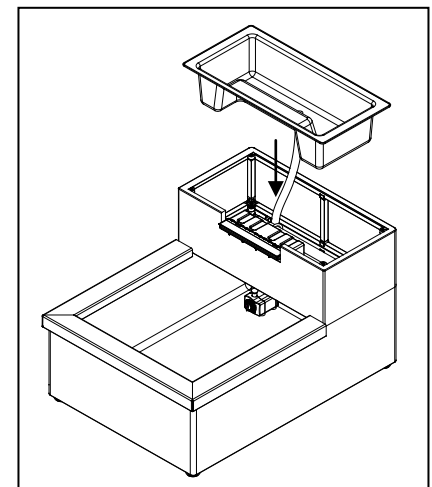

Fig. 8
8. Place the basket on upper section. Note: if the basket connect with the 1/2" ID tube, it is important to insure that the planter drain tube is behind the liner of the reservoir to insure that dirt and debris from the planter do not enter the reservoir. Fig. 8